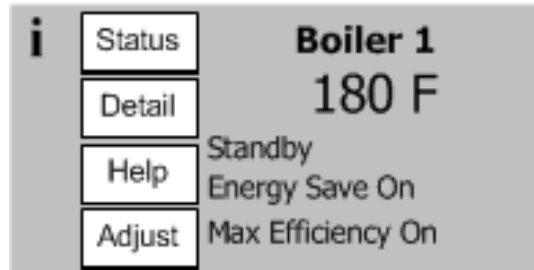
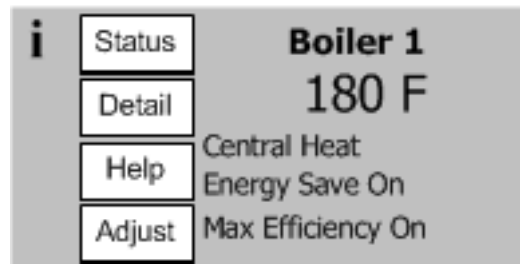

Figure 11.2a: Home Screen at Power-Up (No Call for Heat)
Figure 11.2b: Home Screen on Heat Demand
- 11) Start the boiler using the lighting instructions on page 97. With the boiler powered up, and with no call for heat, the display should look like Figure 11.2a. Once a call for heat is present, it will look like Figure 11.2b.